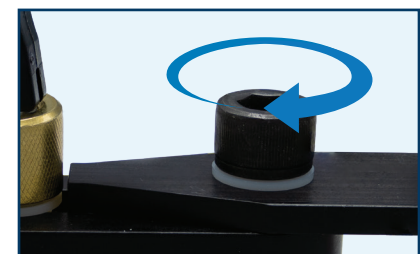

Figure 3
5. Fasten the 2 support arms together, using the arm screw and its washer (Figure 3). Make sure to tighten them securely, using a 3/8" hex key.